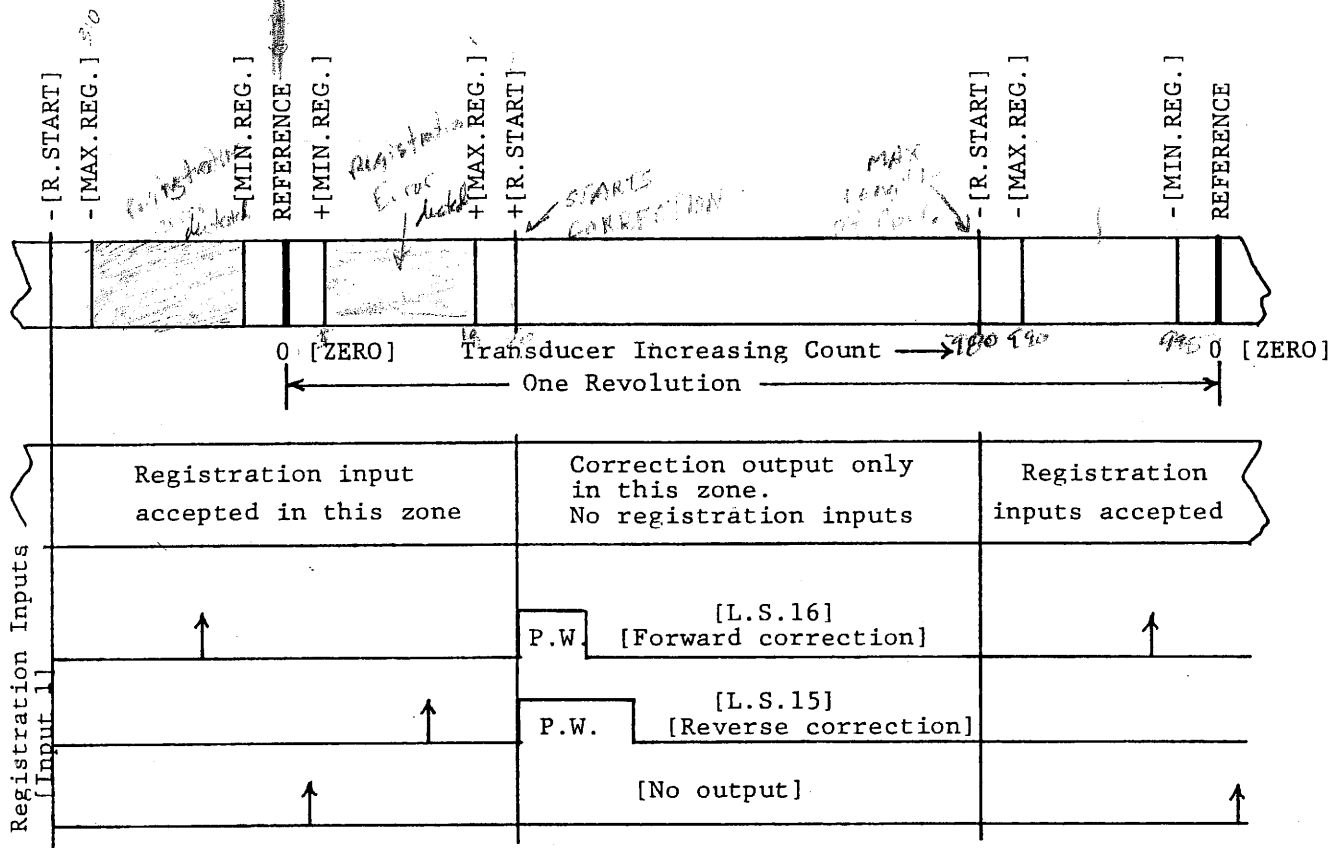

Fig. 1 Timing Diagram
- 3] The actual position [count] for the -[functions] in Fig. 1 is $S.F. - [\text{function}]$